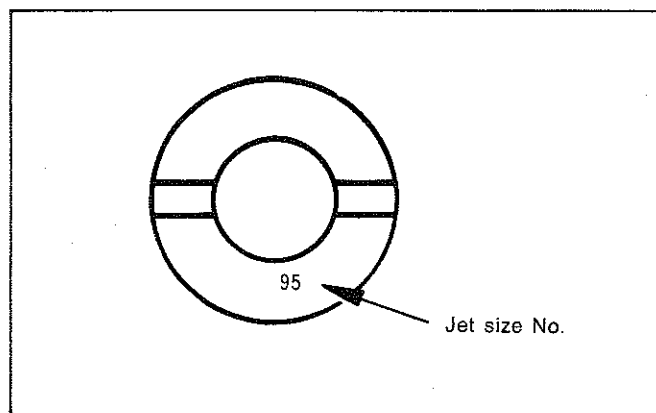

Fig. 10— Jet identification mark
- The main jet, pilot jet and enrichment jet have jet size numbers stamped on them as shown in Fig. 10. The jets must be installed as specified.